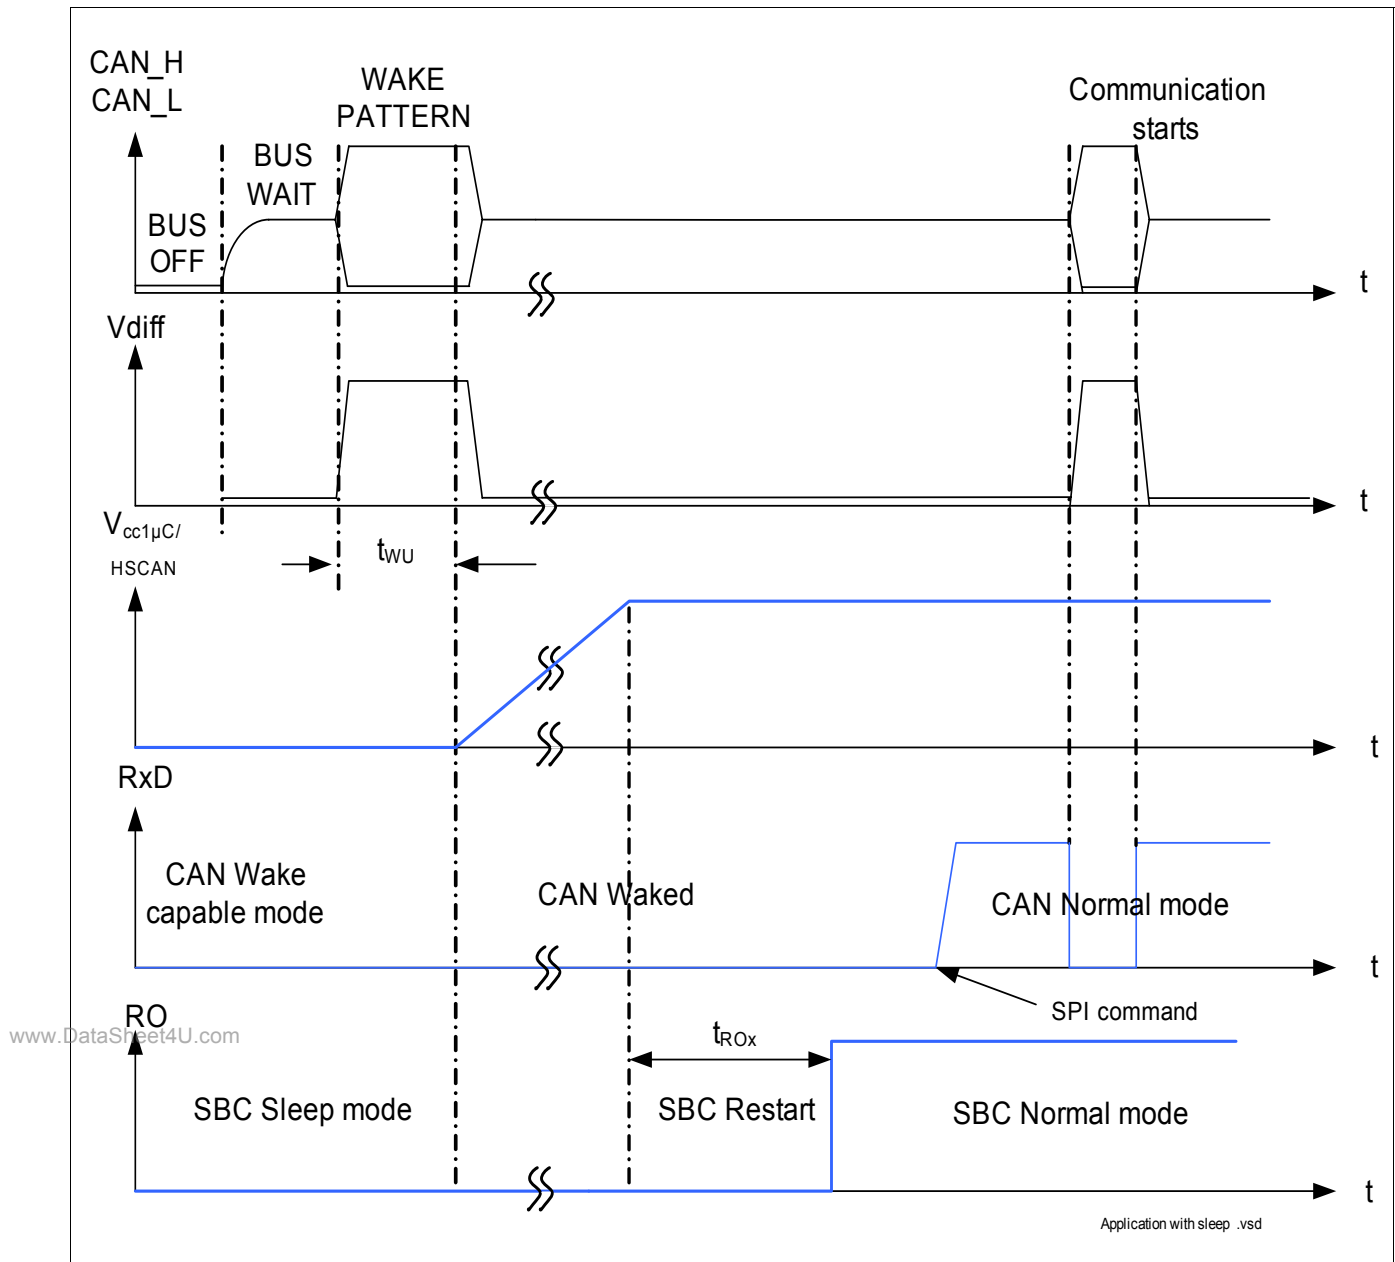

Figure 11 Timing during Transition from Sleep to Normal Mode
Refer to **Figure 11** for a description of the matching of the transceiver modes with the SBC mode.
Wake-up is possible via a CAN message (filtering time $t > t_{WU}$), it automatically transfers the SBC into the SBC Restart Mode and from there to Normal Mode the RxD pins in set to LOW, see Figure 11. The microcontroller is able to detect the low signal on RxD and to read the wake source out of the "Wake Register Interrupt" register (000) via SPI. No Interrupt is generated when coming out of Sleep Mode.
In SBC Sleep Mode, a wake-up on the CAN cell will set the SBC to Restart Mode automatically if the CAN Wake Capable Mode of the SBC is selected via SPI. **Figure 11** shows the typical timing.